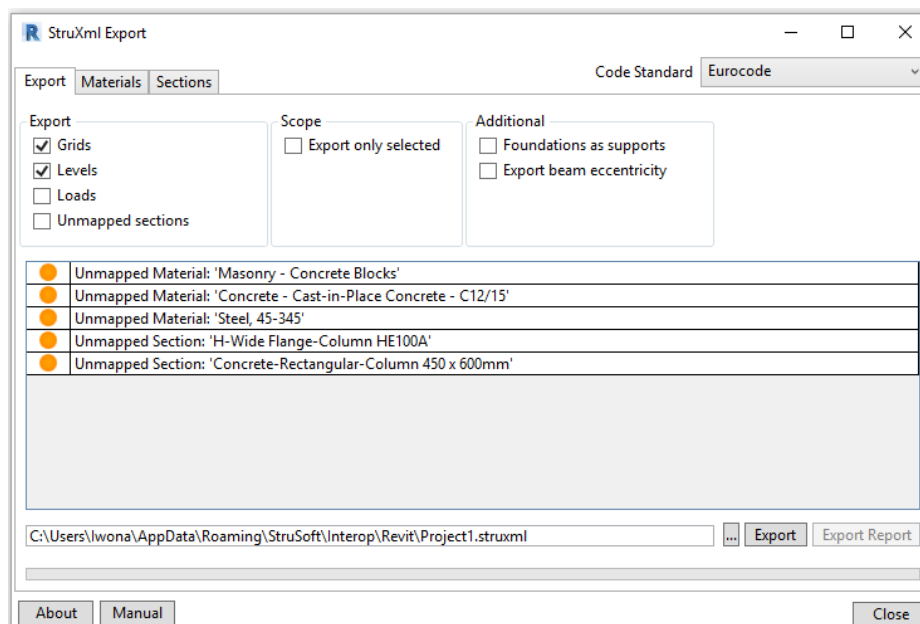

Figure III-36
- 5.1.2. After launching StruXML Export dialog there is a list of warnings about unmapped elements, as shown in Figure III-36.